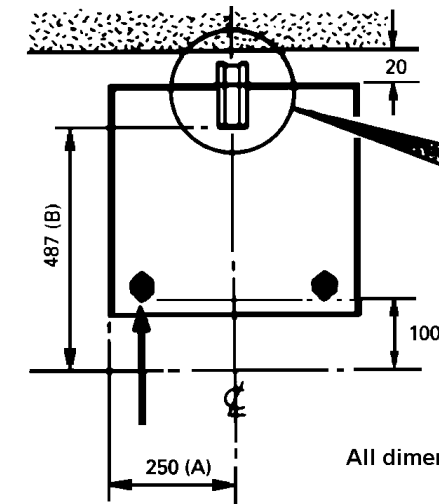
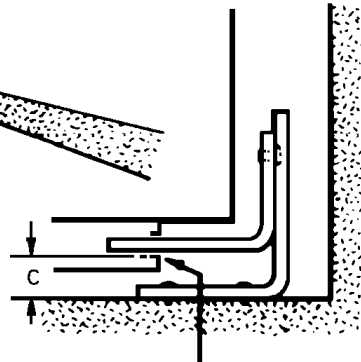

Fig.2a
Fig.2b
2. Mark off 250mm from the left hand side of the appliance as shown in (Dimension 'A'), Fig 2a. This is the centre line of the fixing bracket.
3. Draw a line 100mm from the front edge of the levelling feet (see Fig 2a) and remove appliance from its position. Mark off dimension 'B' (see Fig 2a) back from this line on the centre line of the bracket to locate the front edge of the lower bracket. Fix lower bracket (with two fixing holes) to the floor then measure the height from floor level to engagement edge on back of appliance, dimension 'C' of Fig. 2b.